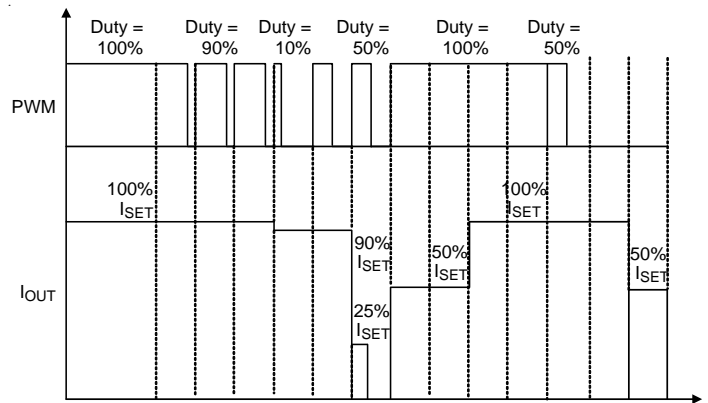

Figure 4. LED Current Control Using Mixed Dimming Mode (MODE = GND)
**Mixed Mode Dimming :** If the MODE pin is set to GND, the dimming mode operates in Mixed Mode (Figure 4). In this mode, the PWM and  $I_{OUT}$  dimming cycle will delay by two periods. First cycle delay is required for the period, while the second cycle delay is for the duty rate calculation.